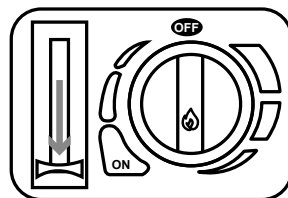

Fig. 3
- Push down on the canister lever to the "FUEL LOCK" position. (Fig.3).